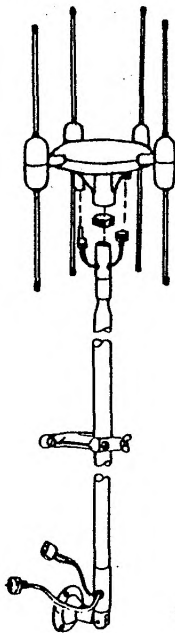

Fig. 1
1. Attach the side and swivel base mounting brackets to the side of the vessel (See Fig. 1).
3. Connect the Direction Finder control cable and the DF Antenna coax to the antenna itself (See Fig. 1).